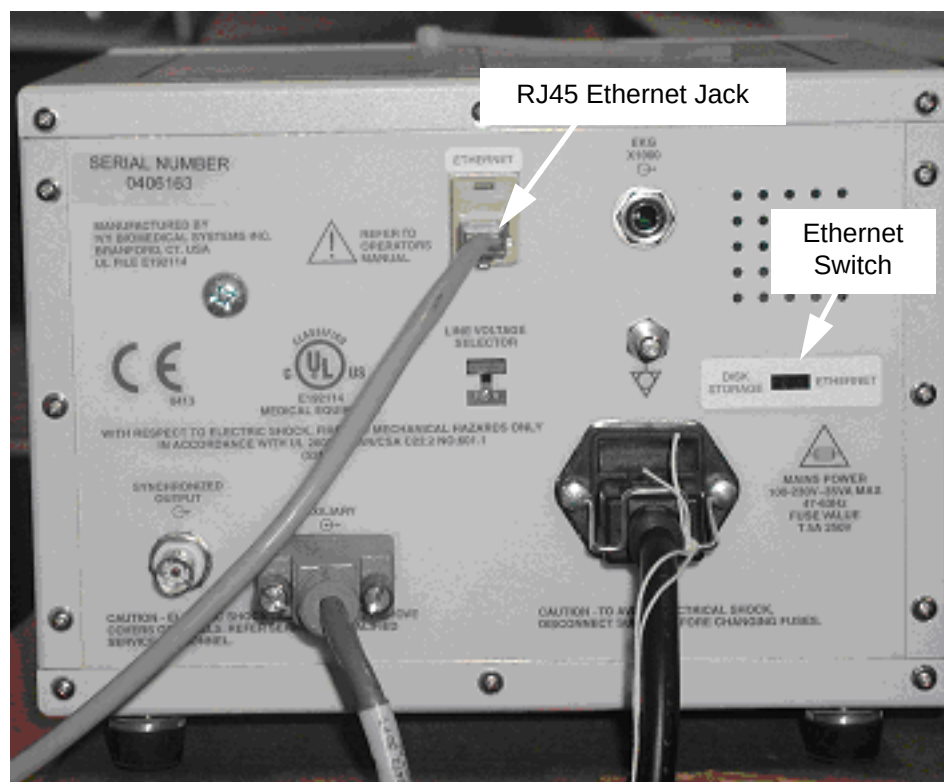

Figure 12-1 ECG Monitor Cabling and Switch Setting
- 1.) At the back of the ECG monitor, connect the long Ethernet RJ45 cable to the Ethernet jack as shown in Figure 12-1.